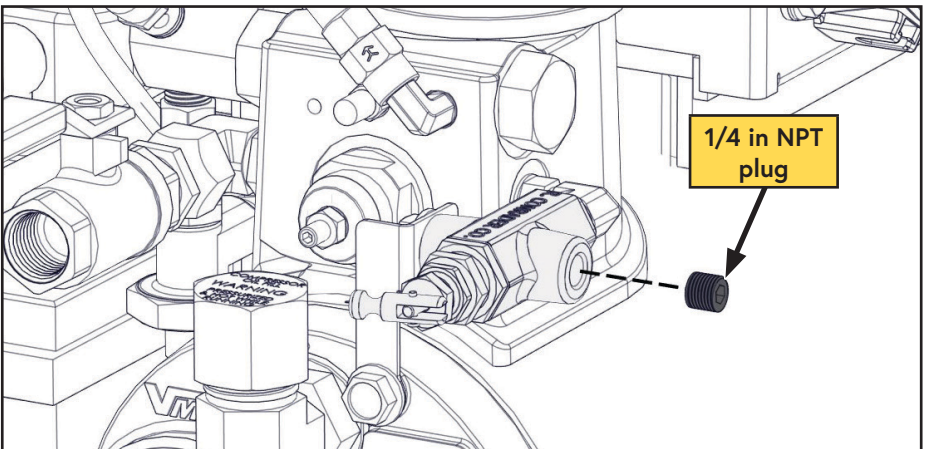

Figure 48 — Plug unloader valve
- Remove the push-to-connect fitting from the unloader valve and plug the valve using a 1/8 in NPT plug (Figure 48).
- ❑ Remove the 1/8 in NPT plug from the unloader valve and install the push-to-connect fitting (Figure 48).